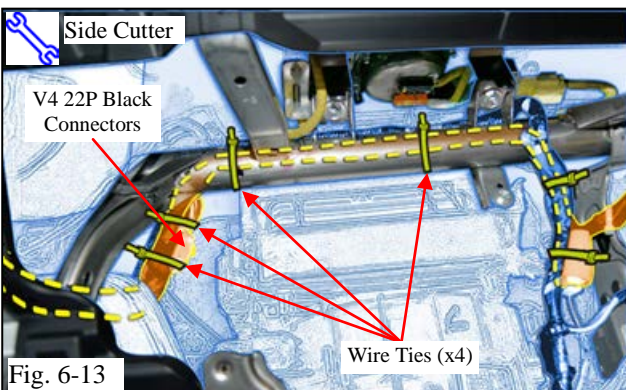

Fig. 6-13
- (v) Route the V4 Harness behind the I/P Reinforcement Bar securing it with 2 Wire Ties. (Fig. 6-13)
- (w) Connect the V4 22P Black Connectors together then bundle excess harness branch and secure to the Vehicle Harness using 2 Wire Ties. (Fig. 6-13)
- (x) Route V4 Harness 8P Connector and Fuse behind the Center Brace towards the Driver's Side Area. (Fig. 6-13)